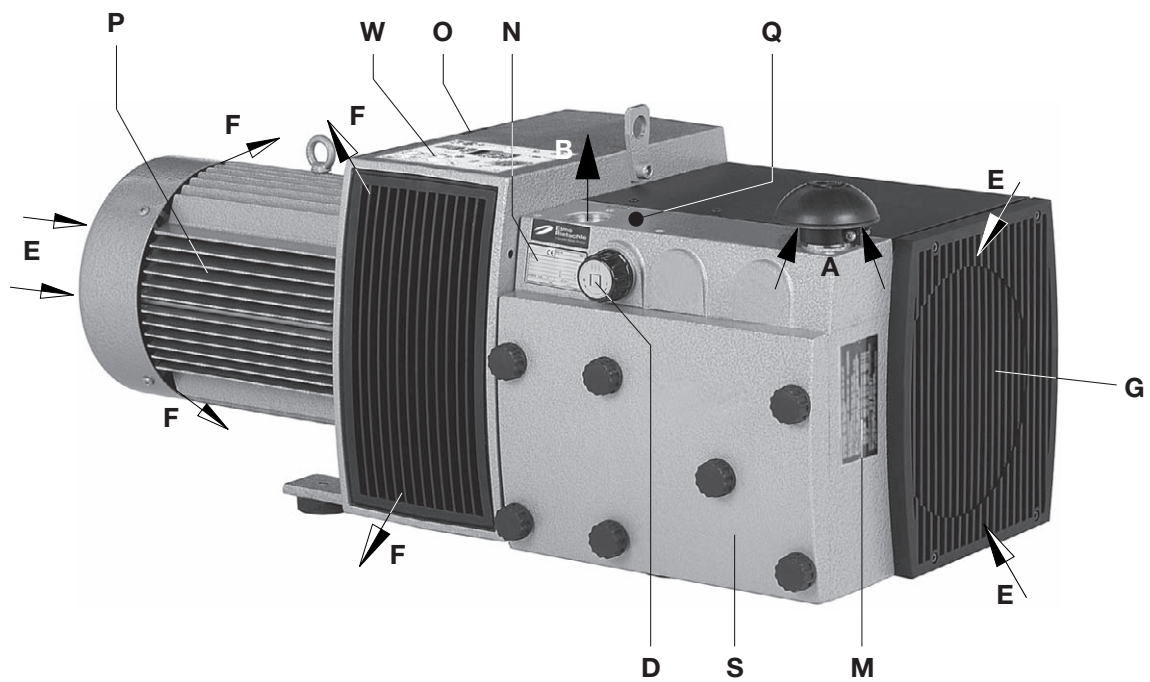

Fig. 2 Compressor V-DTR 100 / V-DTR 140
The pressure regulating valve (Fig. 2/D) is used to set the pressure to the required values with an upper limit.
These dry running rotary vane compressors, V-DTR 100 and V-DTR 140, are suitable for creating excess pressure between 0 and the maximum limit (in bars) given on the data plate Fig. 2/N). Constant operation is permissible.
The filter housing (Fig. 2/S) should be easily accessible. The cooling air inlets (Fig. 2/E) and the cooling air outlets (Fig. 2/F) must be at least 30 cm away from adjacent walls. Cooling air coming out must not be sucked in again.. or maintenance work there must be a minimum of 40 cm in front of the filter housing (Fig.. 2/S) and the inlet grating (Fig.. 2/G).
- a) Pressure connection at (Abb. 2/B).
The required pressure ranges can be set with the pressure regulating valve (Fig. 2/D) as shown on the symbol plate affixed to the rotary knob.
- a) The motor's electrical data is given on the data plate (Fig. 2/N) or on the motor data plate. The motors comply with DIN EN 60034 and are in protection class IP 55 and insulation class F. The appropriate connection diagram is located in the motor's terminal box (not for the plug connection version). Compare the motor data with the data of the existing mains network (current type, voltage, network frequency, permitted current value).
When the machine is at operating temperature the surface temperatures on the components (Fig. 2/ Q) may go above 70°C. You must avoid touching the hot surfaces (marked with warning plates).
- ▷ The drive shaft direction of rotation is shown by the rotation direction arrow (Fig. 2/O) on the motor flange.